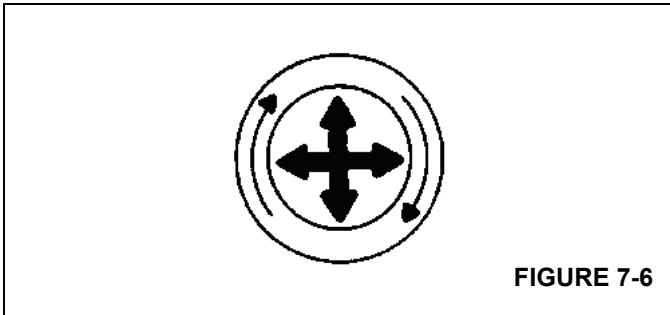

FIGURE 7-6
1. Unlatch the latches, open the air cleaner body, and withdraw the element as follows (Figure 7-6):